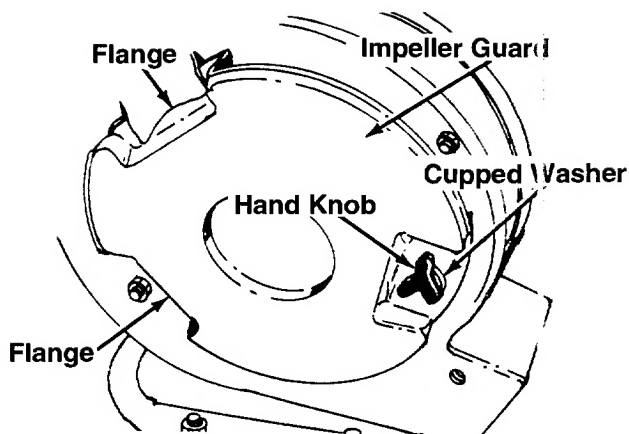

FIGURE 13.
4. Lift up and out on the housing and rotate it 105° clockwise. Chute opening should be to the right hand side when viewed from the front of unit. See figure 13.
5. Place the impeller guard into flanges on front of housing. Line up hole in guard with hole on housing. Secure with one hand knob and cupped washer (cupped side of washer against the impeller guard). See figure 13.